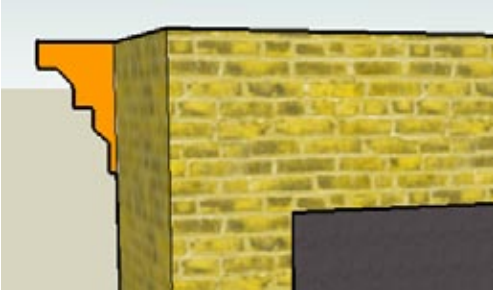

Figure 2-14
3. Draw the mantel cross-section for the Follow Me face. Be careful when you draw lines on this face: If you don't see the *On Face* inference, you might be drawing lines in the wrong plane. Then use the Eraser tool to trim away the rest of the rectangle. If you want to paint the mantel face, it's the color of the *back* side of the face that will be used for the completed mantel. The finished mantel Follow Me face is shown in Figure 2-14.